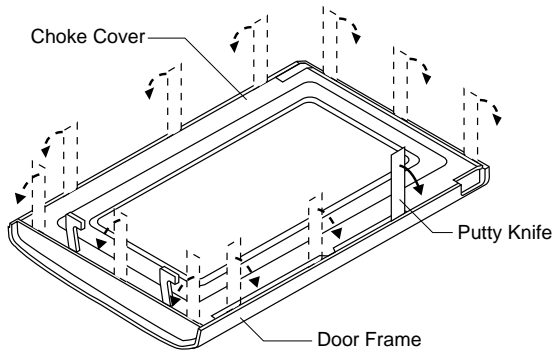

Figure C-5. Door Disassembly
3. Insert an putty knife (thickness of about 0.5mm) into the gap between the choke cover and door frame as shown in Figure C-5 to free engaging parts.
4. Pry the choke cover by inserting a putty knife as shown in Figure C-5.